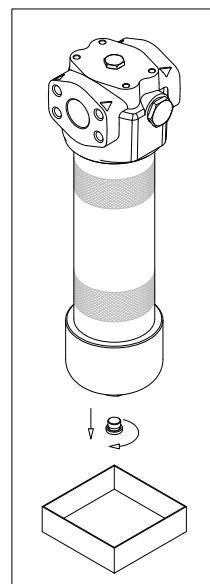

fig. 17
- (Fig. 17) Unscrew the drain plug after placing a vessel to collect the operating fluid